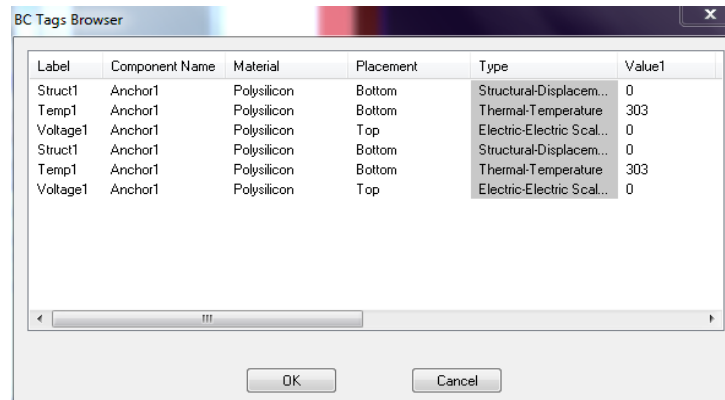

Figure 153: Listed BC Tags.
- In the floating **MEMS Pro Toolbar**, select **Browse** from the **BC Tags** menu to open the **BC Tags Browser** dialog, as shown in (Figure 153)